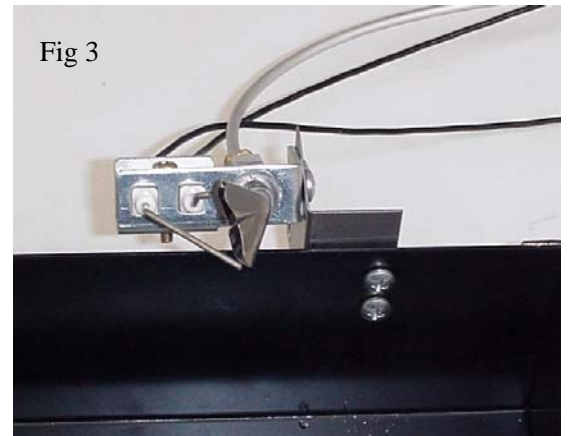

Fig 3
Step 8) Using two Self drilling screws from parts bag attach part #9 to part #10. Position pilot assembly (part 9) angled slightly up as shown in fig 3. Position pilot burner mounting bracket (part 10) to back of pan and attach with 2 nuts and bolts from parts bag